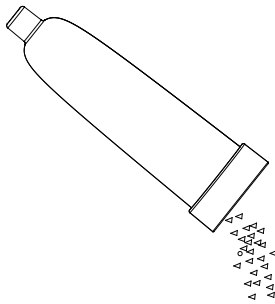
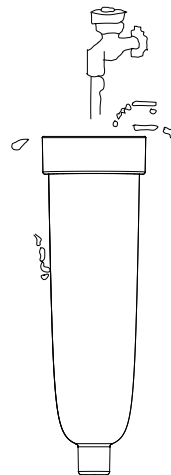

Fig.05
Fig.06
3. After finishing the cleaning, You can take out the dust cup and drop the dust to dust bin. You can wash the dust cup with the water. (Fig.05, Fig06)